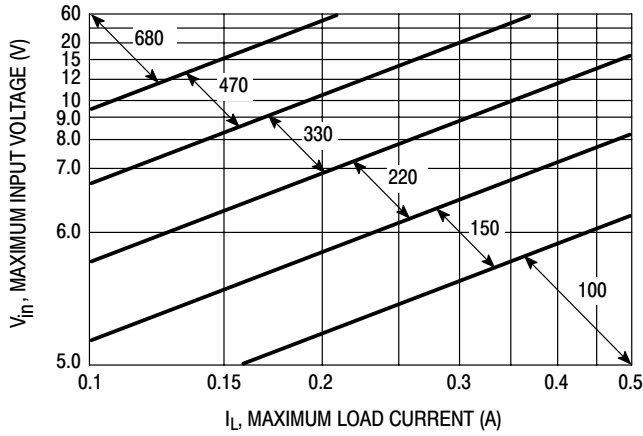
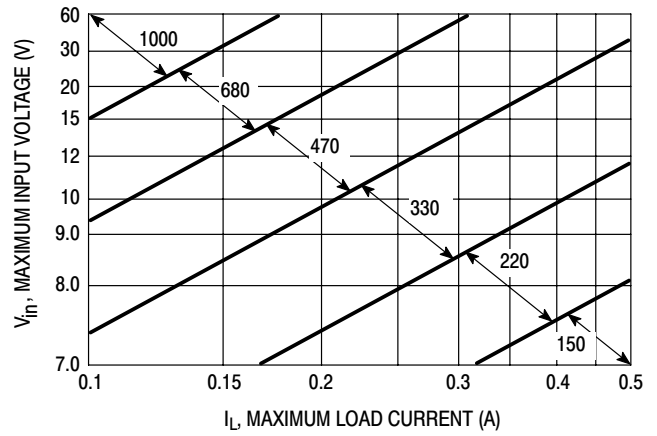

Figure 19. LM2574-3.3
Figure 20. LM2574-5
4. Inductor Selection (L1) A. According to the required working conditions, select the correct inductor value using the selection guide from Figures 19 to 23. B. From the appropriate inductor selection guide, identify the inductance region intersected by the Maximum Input Voltage line and the Maximum Load Current line. Each region is identified by an inductance value and an inductor code. C. Select an appropriate inductor from the several different manufacturers part numbers listed in Table 2. The designer must realize that the inductor current rating must be higher than the maximum peak current flowing through the inductor. This maximum peak current can be calculated as follows: $I_{p(max)} = I_{Load(max)} + \frac{(V_{in} - V_{out})t_{on}}{2L}$ where t_{on} is the "on" time of the power switch and $t_{on} = \frac{V_{out}}{V_{in}} \times \frac{1.0}{f_{osc}}$ For additional information about the inductor, see the inductor section in the "EXTERNAL COMPONENTS" section of this data sheet.	4. Inductor Selection (L1) A. Use the inductor selection guide shown in Figure 20. B. From the selection guide, the inductance area intersected by the 15 V line and 0.4 A line is 330. C. Inductor value required is 330 μH . From Table 2, choose an inductor from any of the listed manufacturers.
To simplify the inductor selection process, an inductor selection guide for the LM2574 regulator was added to this data sheet (Figures 19 through 23). This guide assumes that the regulator is operating in the continuous mode, and selects an inductor that will allow a peak-to-peak inductor ripple current to be a certain percentage of the maximum design load current. This percentage is allowed to change as different design load currents are selected. For light loads (less than approximately 0.2 A) it may be desirable to operate the regulator in the discontinuous mode, because the inductor value and size can be kept relatively low. Consequently, the percentage of inductor peak-to-peak